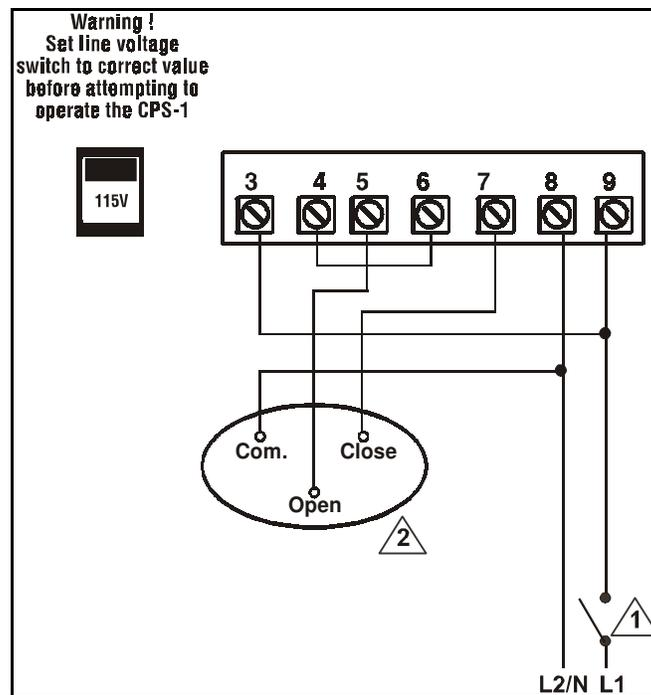

Fig 2 Low Voltage Actuator
- For a low voltage actuator, refer to Figure 2.